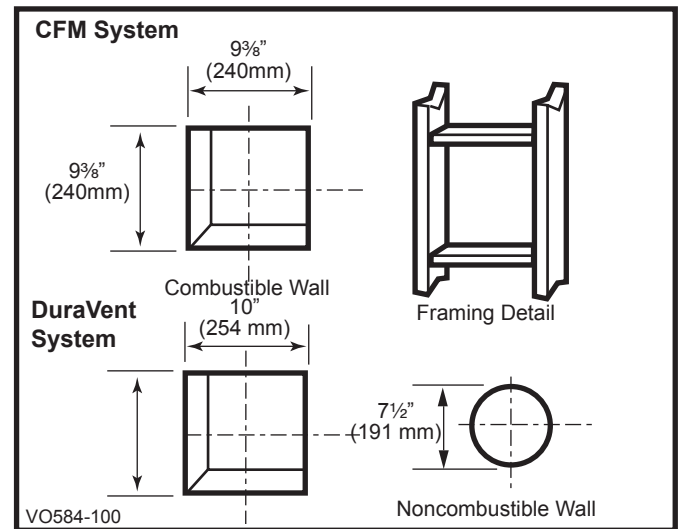
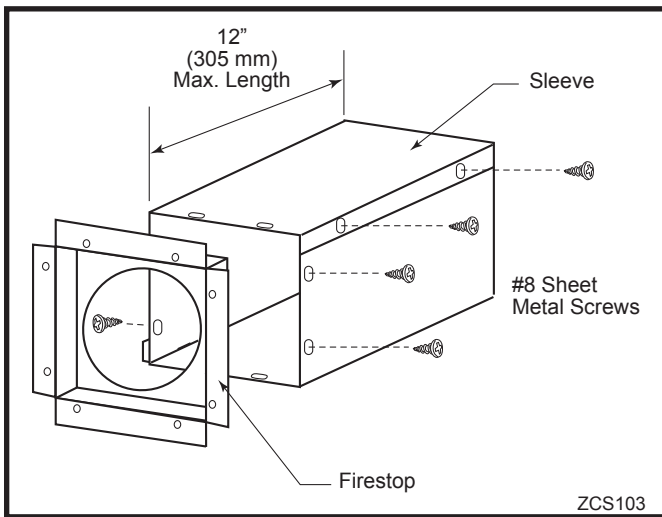

Fig. 23 Locate vent opening.
Fig. 24 Assemble the wall sleeve and firestop.
1. Locate the vent opening on the wall. Refer to Page 7, Figure 6, to determine the opening centerline. It may be necessary to first position the stove and measure to find the hole location. Depending on whether the wall is made of combustible materials, cut the opening to the size shown in Figure 24. Combustible wall openings must be framed as shown in Figure 23.
2. Measure the wall thickness and cut the wall sleeve sections to proper length (MAXIMUM 12"). Assemble the sleeve with the #8 sheet metal screws supplied. Attach the firestop plate to the sleeve end with the holes. (Fig. 24) **NOTE:** The wall sleeve is required in combustible walls only.
3. Install the Wall Firestop/Sleeve assembly into the wall cutout and fasten the firestop to the wall cutout framing members. (Fig. 24)